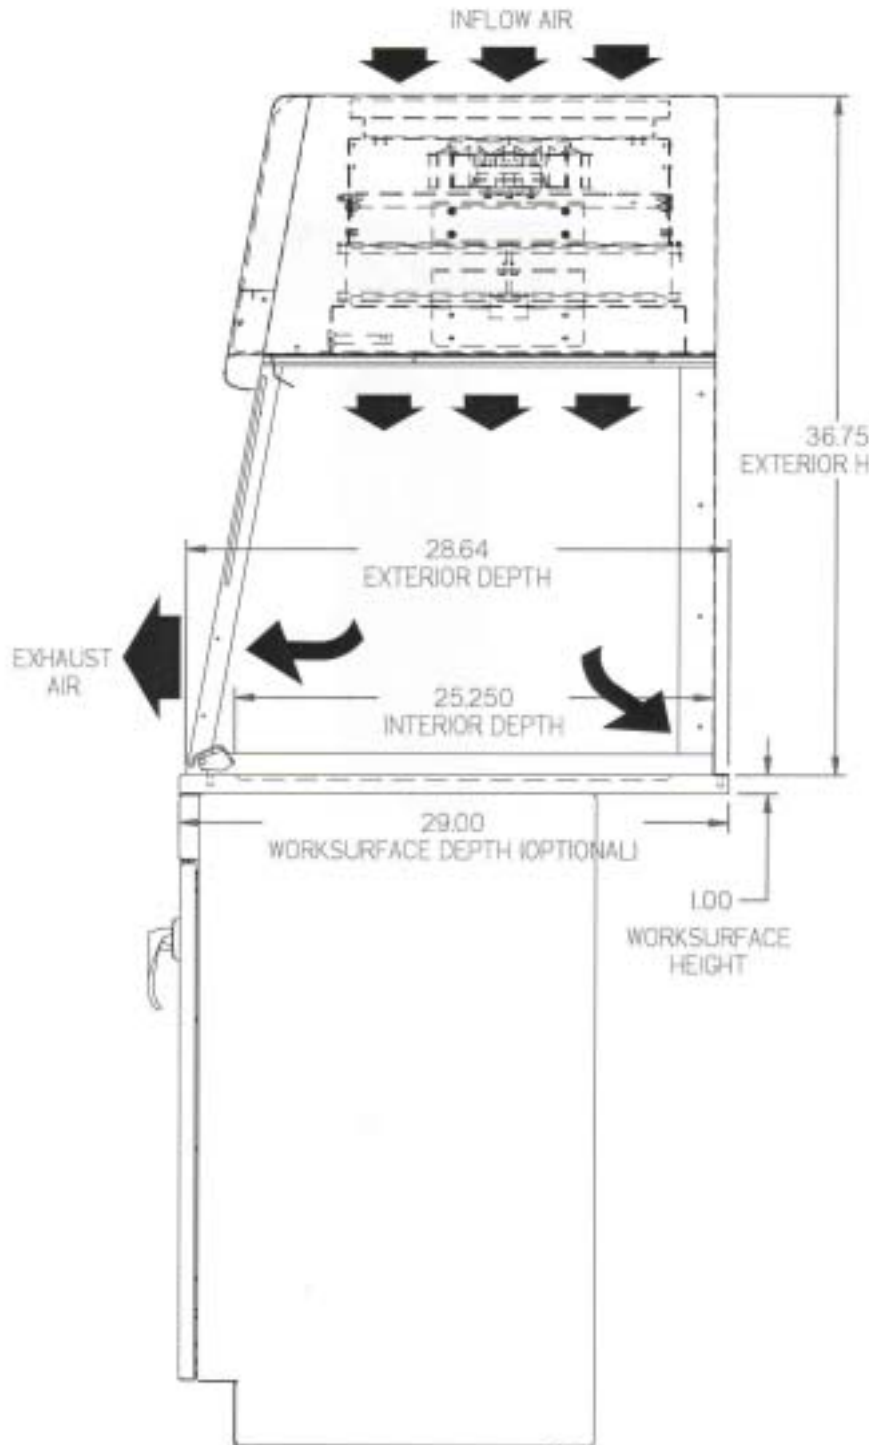

Figure 3-1
1. Level the base cabinet or stand and the work surface. See Figure 3-1.